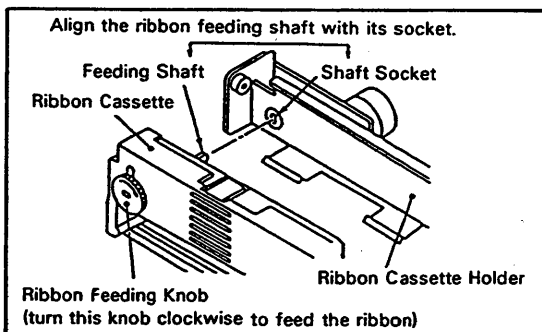

Figure 5-11-1.
- (6) Align the ribbon feeding shaft of a new ribbon cassette (part no. B9566DZ) with the shaft hole (see Figure 5-11-1).